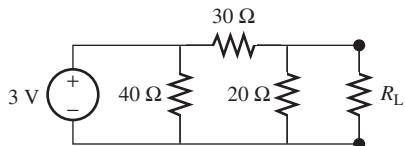

FIGURE P3.55 Circuit for Problem 3.55.
- 3.55** (A) Find the Norton equivalent as seen by R_L in the circuit in Figure P3.55.